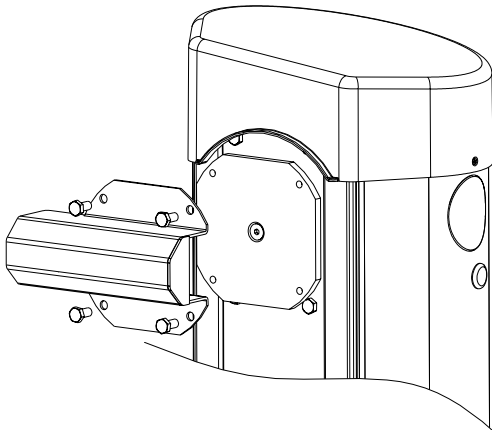

Fig. 5
- Fix the arm-holding bracket into place, loosely tightening the screws (Fig. 5).